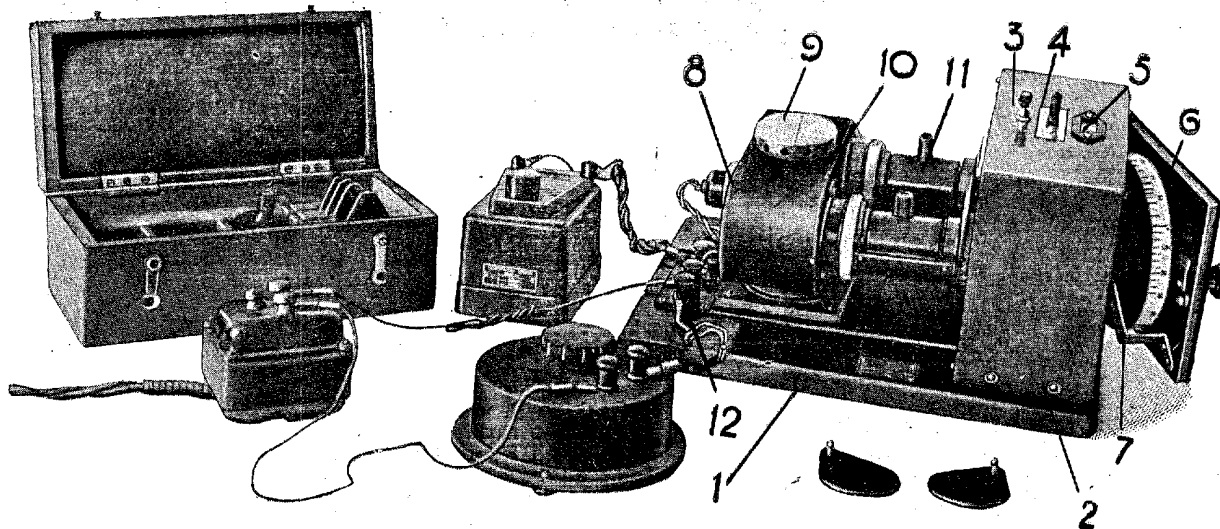

FIG. 2. General view of the Colorimeter
All parts of the instrument (Fig. 2) are mounted on a wooden panel (1). On one side on the panel is located a wooden housing (2) containing the photoelectric cells, the variable resistance and the coil. One housing wall has apertures through which light passes to the photocells. On the top of the housing are: the galvanometer push-button switch (3), the bulb switch handle (4) and the opening (5) through which the variable resistance scale can be viewed. The other housing wall is a hinged door (6) with the variable resistance disc (7) and control handle mounted thereon. On the other side on the panel is located a metal housing (8) containing the lamp. In the center of